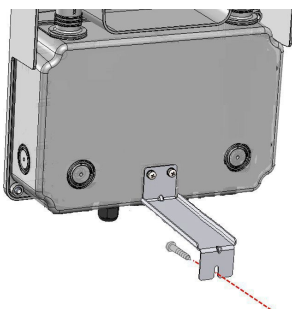

Figure 20: Securing the Connection Unit to the wall
3. Hang the inverter on the bracket. See Figure 20